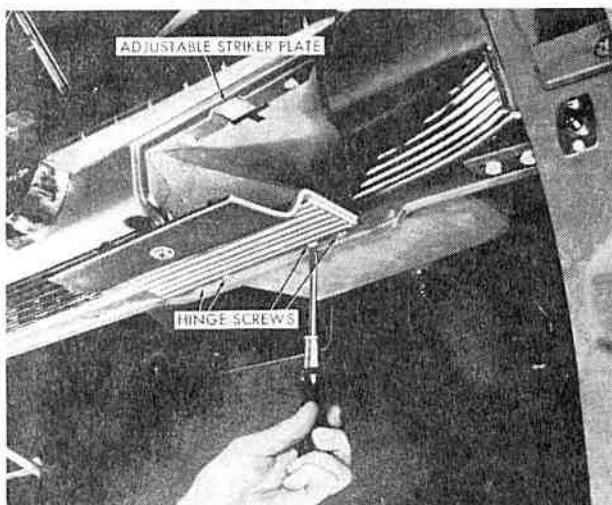

Fig. 7
**PACKAGE COMPARTMENT DOOR ADJUSTMENT** To adjust the compartment door, loosen the four hinge screws on the under side of the instrument board (see Fig. 7). After moving the door in or out to increase or decrease the spring tension of the hinges, tighten the screws to maintain the adjustment. The compartment door striker plate should then be adjusted so that the door will lock properly.